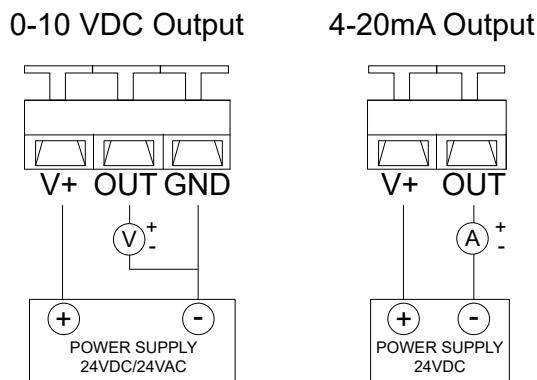

Figure 7 AcuTEMS IM Wiring Terminals for Temperature Transmitter
**NOTE:** If using 4-20mA signal output, the sensor must be powered with 18.5~35VDC ( $RL=500\Omega$ ) power supply. Ensure that the analog input common reference of the BAS controller, PLC, and Automation Panel is connected to the DC power supply common to complete the circuit. The device will not work if the common references are not connected. See Figure 7 below.